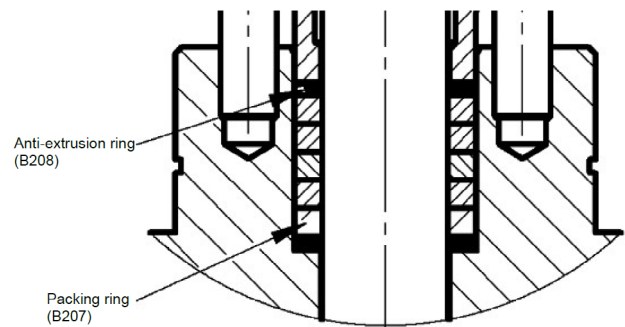

Figure 15 - Packing Arrangement
- Refer to Figure 15 for packing arrangement.
- Number of packing rings provided will vary based on valve size, but a minimum of two anti-extrusion rings will always be provided and must be arranged according to Figure 15.